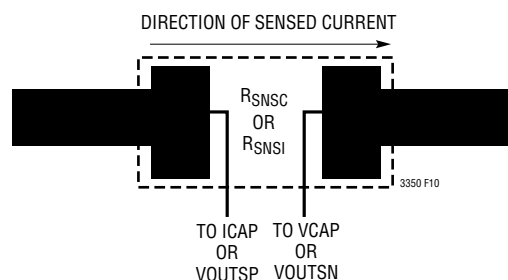

Figure 10. Kelvin Current Sensing
- Route ICAP and VCAP sense lines together, keep them short. Same with VOUTSP and VOUTSN. Filter components should be placed near the part and not near the sense resistors. Ensure accurate current sensing with Kelvin connections at the sense resistors. See Figure 10.